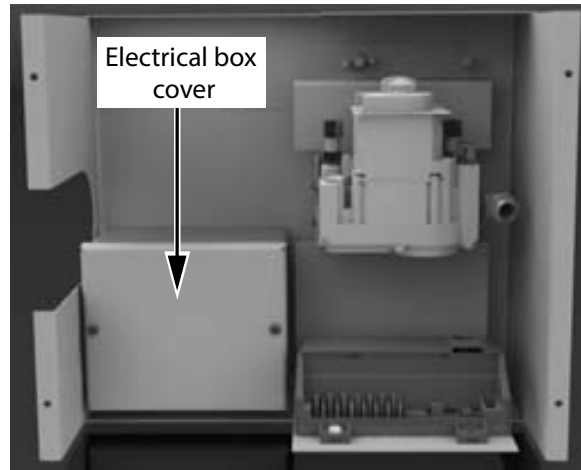

Figure 26: Electrical box cover.
4. Remove the cover from the electrical box (Figure 26).